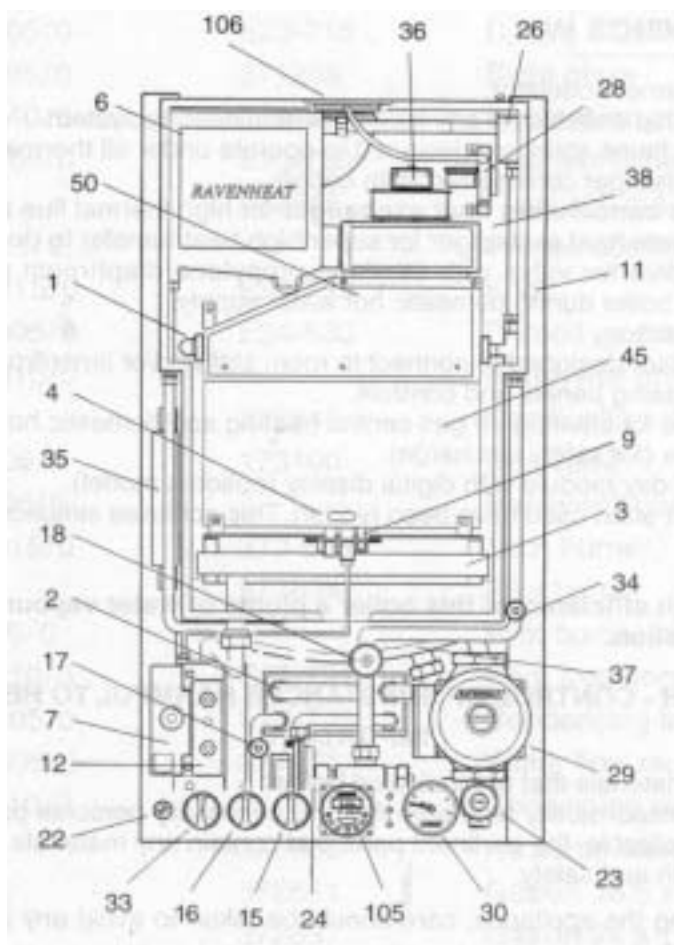

Fig. 1
BASIC COMPONENTS - (See figure 1)
- 1.2 Fig. 1 Illustrates the general layout of components.